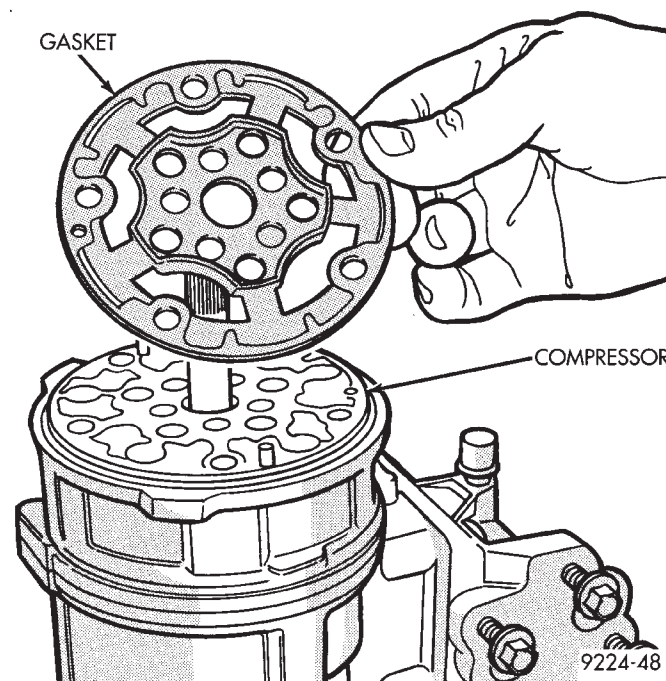

Fig. 3 Removing Steel Valve Plate Gasket
(6) Remove steel valve plate gasket and O-ring seal and discard (Fig. 3 and 4).